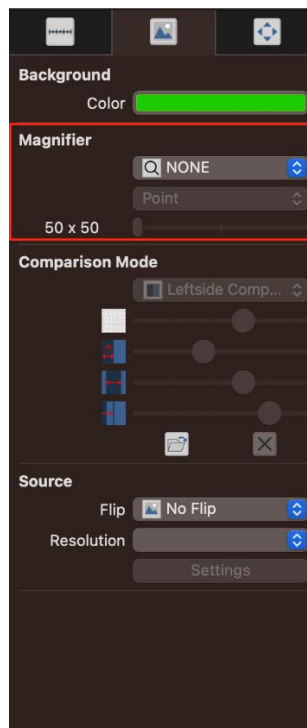

Figure 5-44 Magnifier settings
2. Magnifier settings, as shown in Figure 5-44: